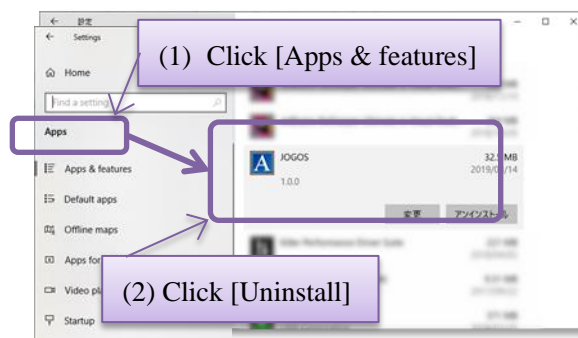

Figure 7.13 Apps & features
- (3) Choose “JOGOS” in “Apps & features” and click on “Uninstall”. (Figure 7.13)